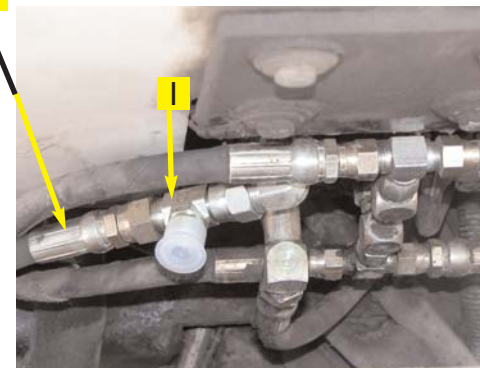

Figure 3d. Run tee installed in steering orbital tank line
- d. Re-attach the tank line to the end of the run tee (I). (Figure 3d.)